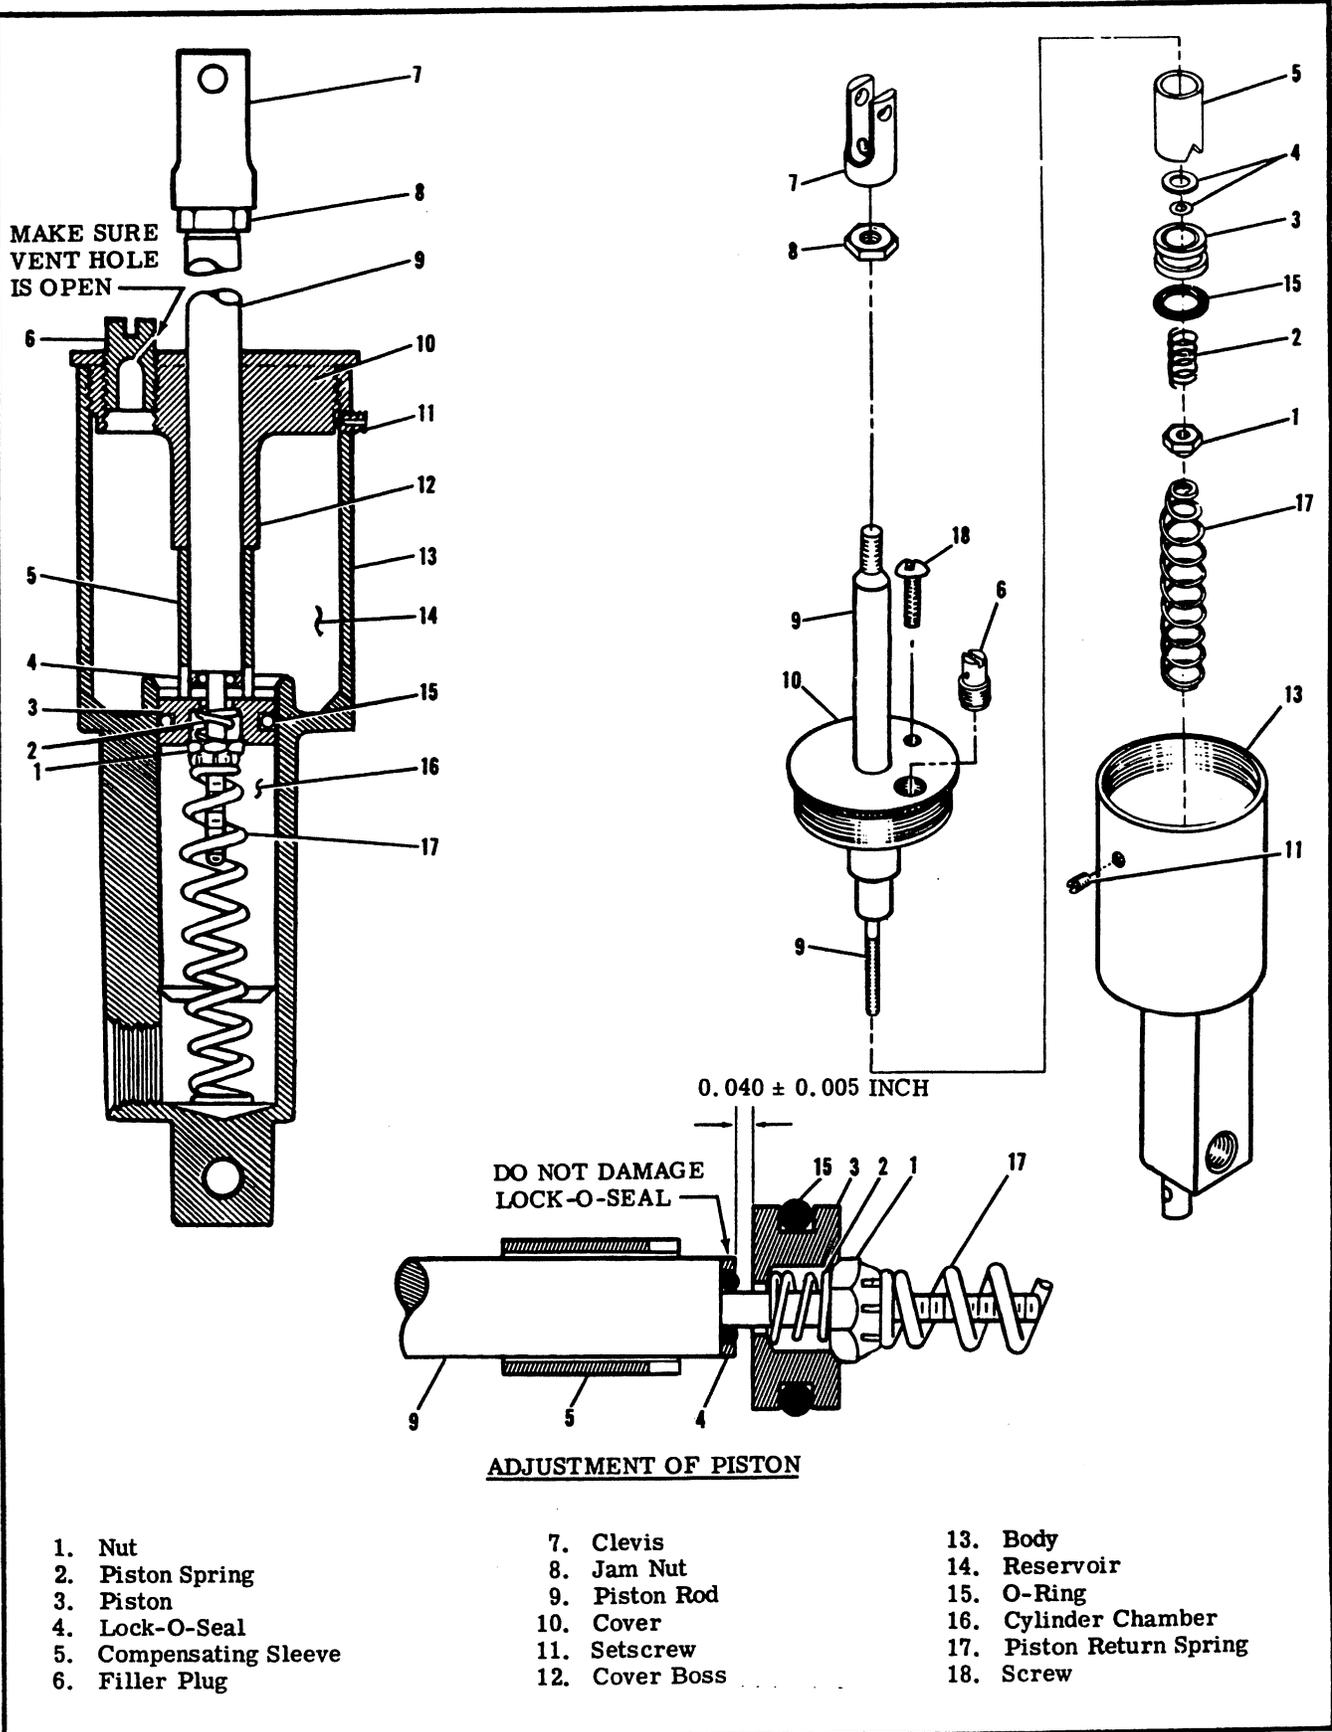

Figure 5-13. Brake Master Cylinder
Insufficient clearance between Lock-O-Seal and piston in master cylinder.	Adjust per figure 5-13.
Too much clearance between Lock-O-Seal and piston in master cylinder.	Adjust per figure 5-13.
5-69. DISASSEMBLY OF BRAKE MASTER CYLINDER. (Refer to figure 5-13.)
5-71. ASSEMBLY OF BRAKE MASTER CYLINDER. (Refer to figure 5-13.)
- a. Install jam nut (8) and clevis (7) onto piston rod (9) and insert into cover (10).
- b. Install filler plug (6) in cover (10), and tighten.
- c. Assemble piston rod (9), compensating sleeve (5), lock-O-seal (4), piston (3), piston spring (2) and nut (1), maintaining 0.040 ± 0.005-inch spacing between lock-O-seal and piston. (Refer to cutaway section in figure 5-13.)
- d. Install piston return spring (17) toward piston (3), insert into cylinder, using care to prevent damage and to ensure that piston return spring is seated into bottom of cylinder.
- e. Screw cover into cylinder snugly and tighten setscrew (11).